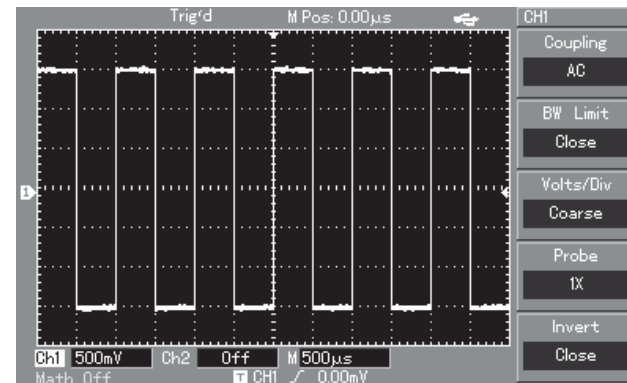

Figure 1-7 Probe compensation signal
③ Connect the probe tip and ground clamp to the connection terminal for the probe compensation signal. Press [AUTO] and you will see a square wave in the display (1kHz, approximately 3V, peak-to-peak value) in a few seconds, as shown in Figure 1-7. Use the same method to check CH2. Press function key [CH1] again to close CH1. Press function key [CH2] to activate CH2 and repeat steps 2 and 3.